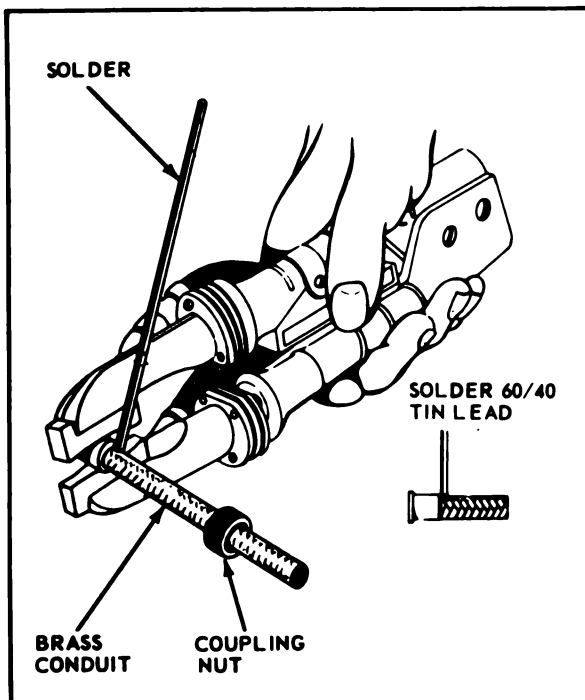

Figure 11-22. Soldering Ferrule to Brass Conduit
e. Solder ferrule to conduit with electrical resistance unit as shown in figure 11-22, using rosin core 60/40 tin-lead solder. Fill with solder until there are no blow holes between ferrule and conduit, and the exterior is smooth.